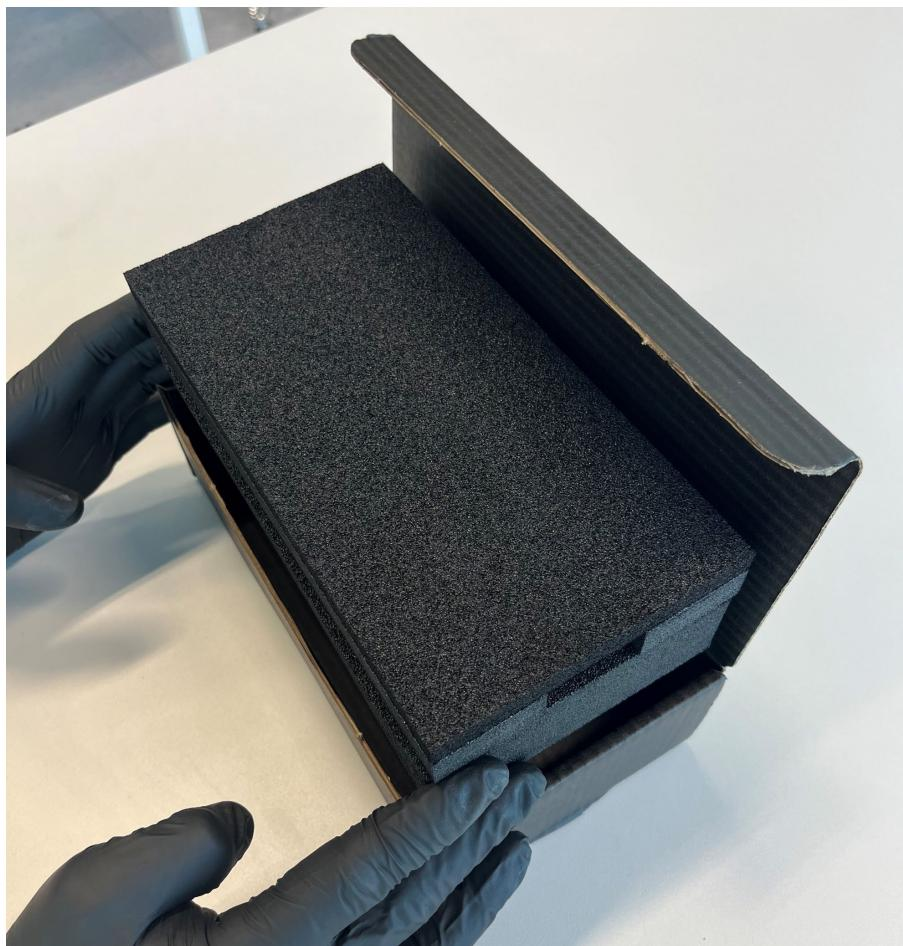
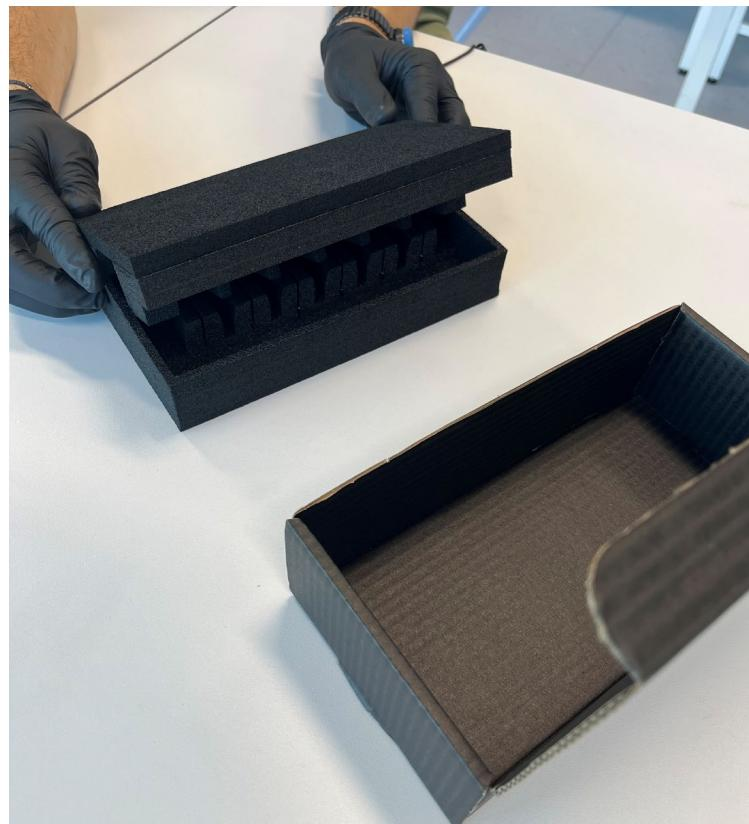

Figure 41: Removing the probes in the foam from the carton shipping box.
Figure 42: Removing the foam from the carton box and lifting the top foam.
- Remove the complete foam from the carton box (Figure 41 and Figure 42).
- Carefully lift the top foam from the bottom foam, which contains the probes (Figure 42).